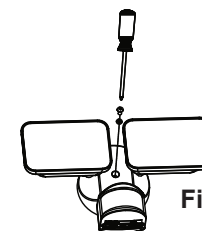

Fig. 5
06. Position the light fixture over the crossbar. Mount it to the crossbar using the nut (part 4) and screw (part 2). Make sure not to overtighten the nut. Make sure the motion sensor head is not upside down. Rotate the motion sensor so the sensor faces the detection area (see fig. 5).